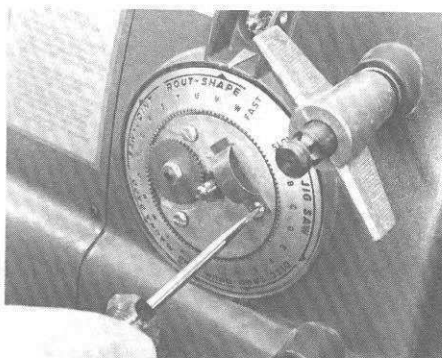

Figure 17. The far right screw that holds the speed changer in the power plant also holds the dial spring to the speed changer.
6. Install the speed changer and speed control dial. Install the speed control dial and speed changer, taking care not to turn the worm control shaft. Fasten the speed changer in the power plant with the two screws on the left, then install the screw on the right, along with the dial spring on the outside. (See Figure 17.) The dial spring helps keep the speed control handle from turning when the machine is running. The end of the spring should rest between two small bumps on the speed changer.